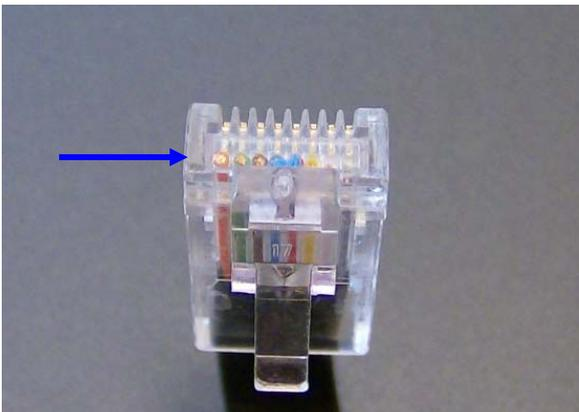

Fig. 9 Modular connector end
- Check that the 8-pole Modular connector is correctly clamped onto the flat cable. All 8 wires in the cable must be run all the way to the Modular connector as shown in Fig. 9, see arrow.
- Check also that the plastic partitions between the contact surfaces are intact and parallel, so that no contact surface becomes blocked. See Fig. 9 and 10. N.B! The elastic section of the contact surface in the Modular connector on the control unit is not so large that it manages to gain contact if the connection is damaged in any way.